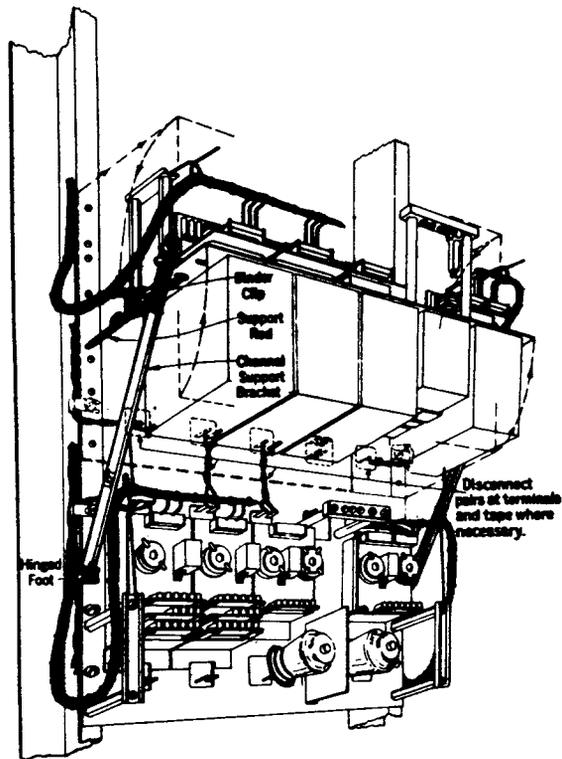

Fig. 2 - Method of Using Group 2 Maintenance Support Bracket
- 3.12 Loosen the wing nuts and extend the channel support brackets parallel to the support rods. Screw the rods of the left and right brackets into the holes five inches from the top on each side of the panel or, if the panel is less than three mounting plates high, in the hole nearest the bottom on each side of the panel. See that the cable loop is outside the rod. See Fig. 2.